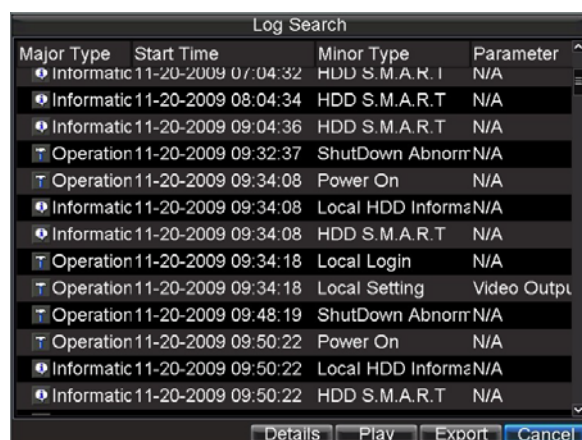

Figure16. Log Search Results
3. Click the *Search* button to start search. If logs matching the search conditions are found, it will be displayed in a list of search results as shown in Figure 16.